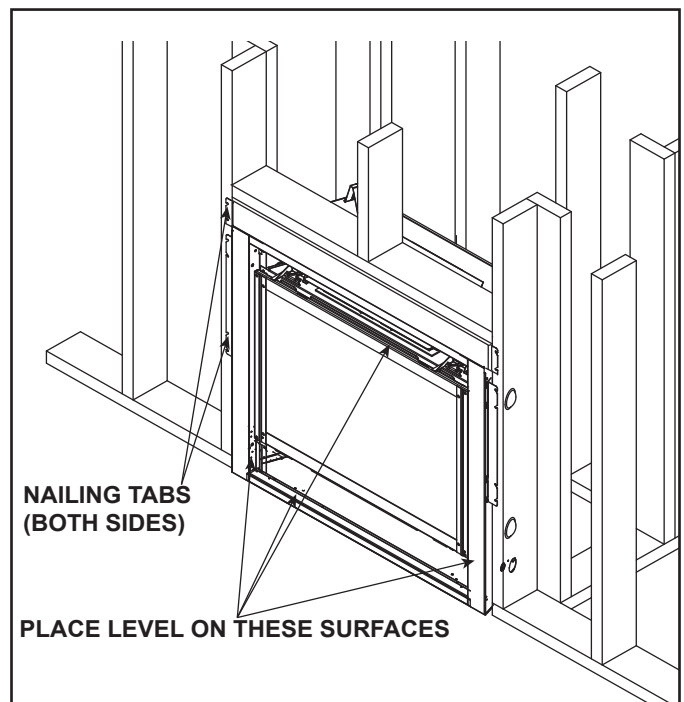

Figure 6.15 Proper Positioning and Securing of an Appliance
The diagram shows how to properly position and secure the appliance. See Figure 6.15. Nailing tabs are provided to secure the appliance to the framing members.
- Place a level on top, sides and bottom as shown in Figure 6.15.